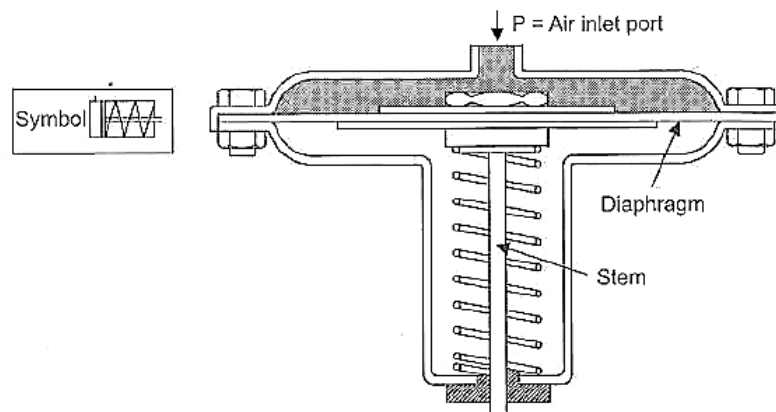

Fig.5.2 Construction features of diaphragm cylinder
- ▶ This is the simplest form of a single acting cylinder where the piston is replaced by a diaphragm of hard rubber, plastic or metal clamped between the two halves of a metal casing expanded to form a wide, flat enclosure. A schematic diagram of a diaphragm cylinder is shown in Fig.5.2.